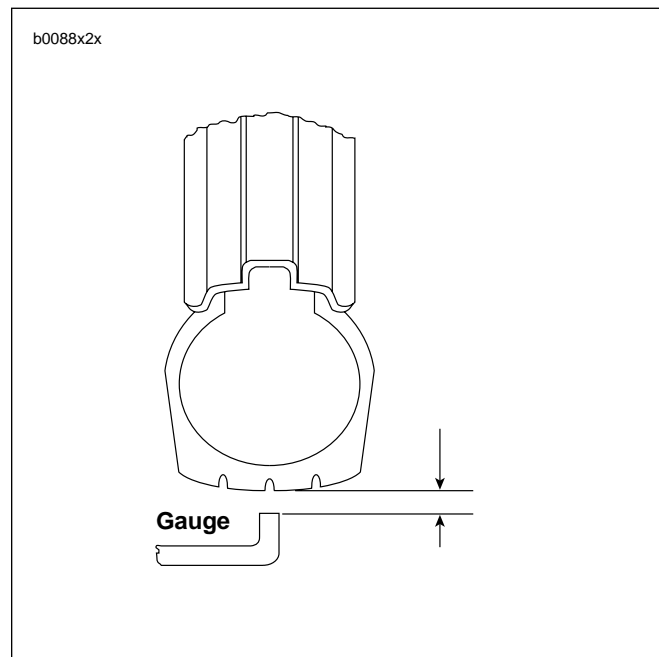

Figure 2-35. Checking Tire Radial Runout
1. See Figure 2-35. Turn wheel on axle and measure tire radial runout.